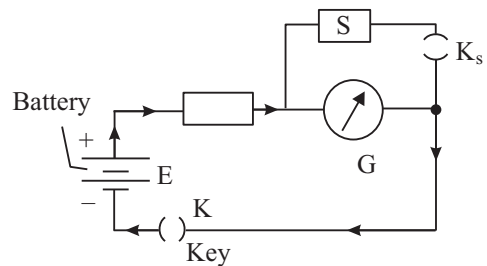

Fig. 29.1
For determination of galvanometer resistance G the circuit is connected as shown in Fig. 29.1 below.
Another important constant of a Galvanometer is I_g , **the full scale deflection current.** I_g is that much current- which deflects the Galvanometer pointer from O to maximum deflection on its scale conversion of a Galvanometer into a voltmeter or an ammeter we must know I_g also. To find the value of I_g again refer to Fig. 29.1. Let the EMF of the battery be E and the value of the resistance connected in series with the Galvanometer and battery be R. Then, the current I flow through the galvanometer which produces a deflection θ in it, is given
- (iv) Place the equipment as shown in Fig. 29.1 and connect them with pieces of DCC wire whose ends have been properly cleaned with sand paper. Take out 5 k ohm key from the resistance box R and insert key K . Adjust R so that the deflection in G is more than 20 (70% of number of divisions in the galvanometer scale) and divisible by 2, say 22.